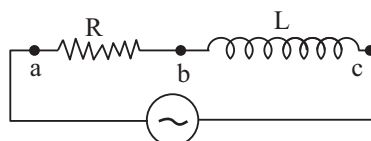

Fig. 24.5
- (v) An AC voltmeter connected between *a* and *b* (Fig. 24.5) reads 30 volts and when connected between *b* and *c* reads 40 volts. How much will it read when connected between *a* and *c*? Assume the inductor to be a pure inductor.